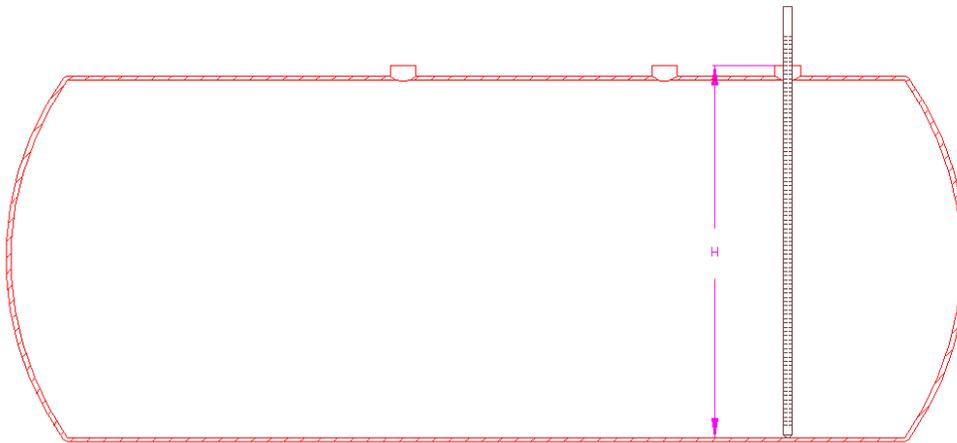

Figure 2 Tank Height Dimension
1. Measure the height H from the bottom of the tank as shown if Figure 2.